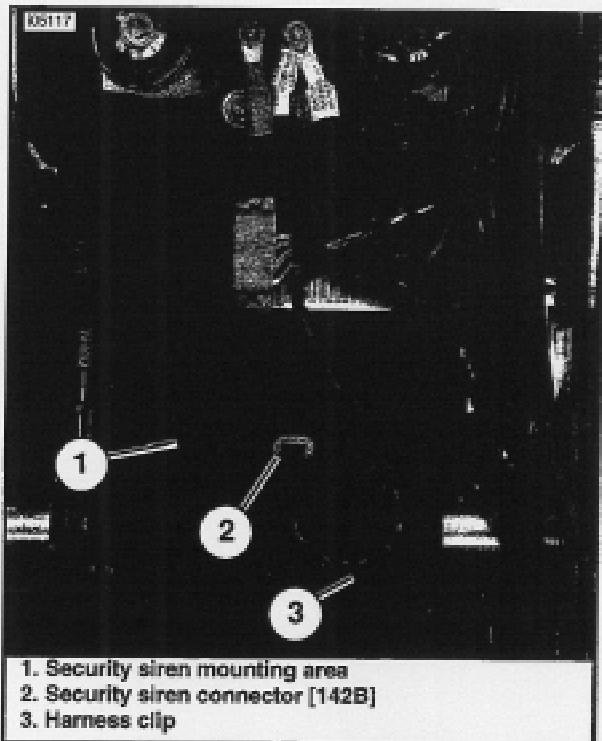

Figure 11. Security Siren Connector (Softail Models)
4. See Figure 11. Remove the security siren connector [142B] (2) from the receptacle in the siren mounting area (1) of the electrical panel.